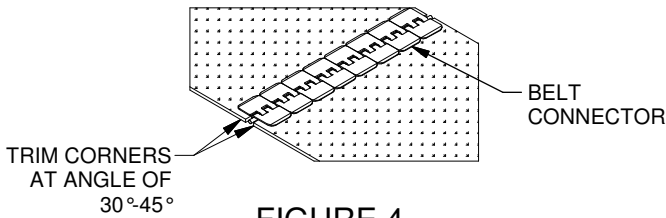

FIGURE 4
9. Feed the belt back through the tube structure. Pull it with the cable or rope until it comes out from the Intake, then join the two ends together using the belt connectors. See Figure 4 for details.